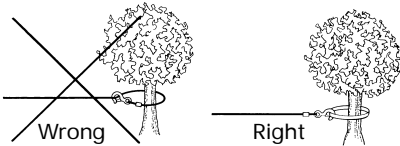

Figure 4
8. NEVER HOOK THE WIRE ROPE BACK ONTO ITSELF because you could damage the wire rope. Use a nylon sling (Figure 4).